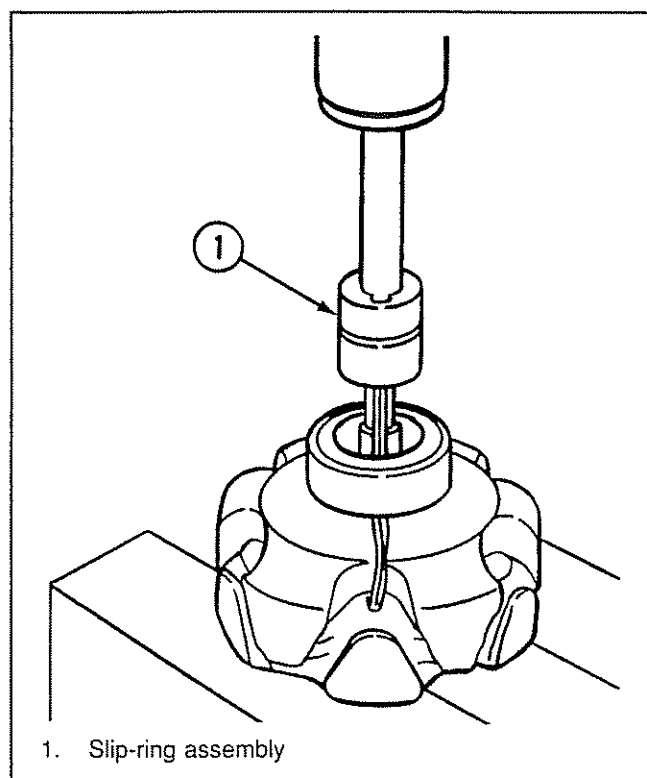

Figure 6-83. *Installing Slip Rings On Rotor*
2. Guide the rotor leads through one of the oval passages in the slip-ring assembly. Align this oval passage with the groove in the shaft and make sure that the driver sleeve used will clear the rotor leads. Carefully press the slip-ring assembly onto the shaft. See Figure 6-83.